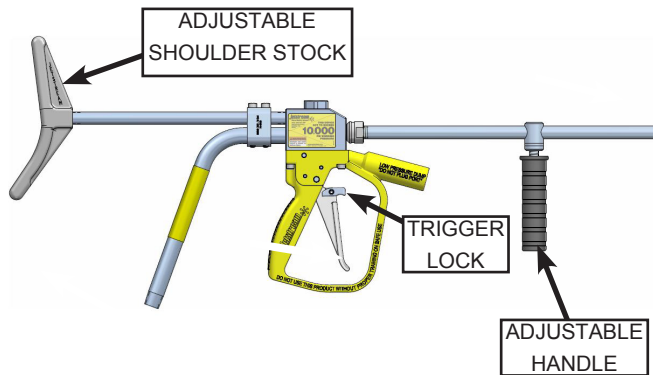

Fig. 4: Control Gun Safety Features
- Trigger Lock (Fig. 4) - Prevents accidental discharge from the control gun.
- Adjustable Shoulder Stock (Fig. 4) - Provides support and control during operation.
- Handle (Fig. 4) - Provides control during operation and offers reduced trigger force to prevent fatigue.